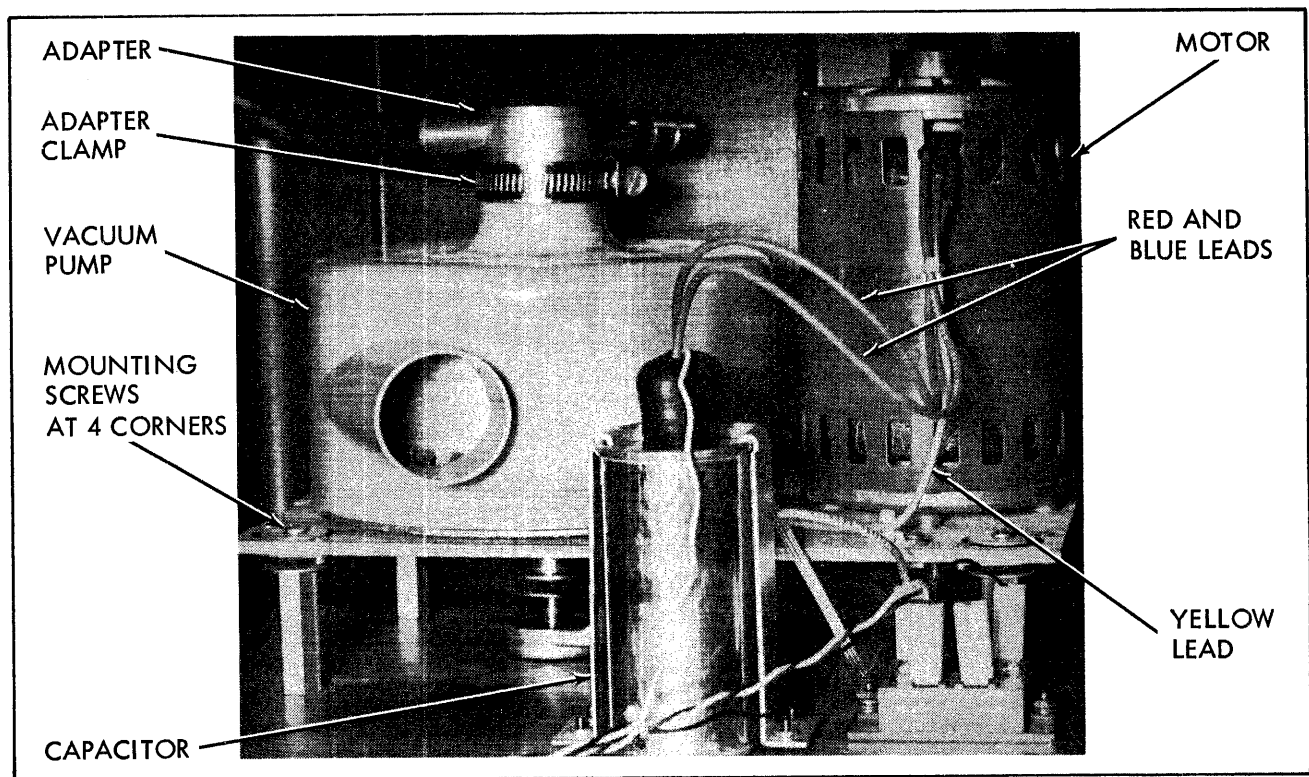

Figure 6-12. Bottom Vacuum Pump Assembly Removal
- a. Remove the rubber hood from the motor run capacitor and disconnect the red and blue clip leads, figure 6-12.